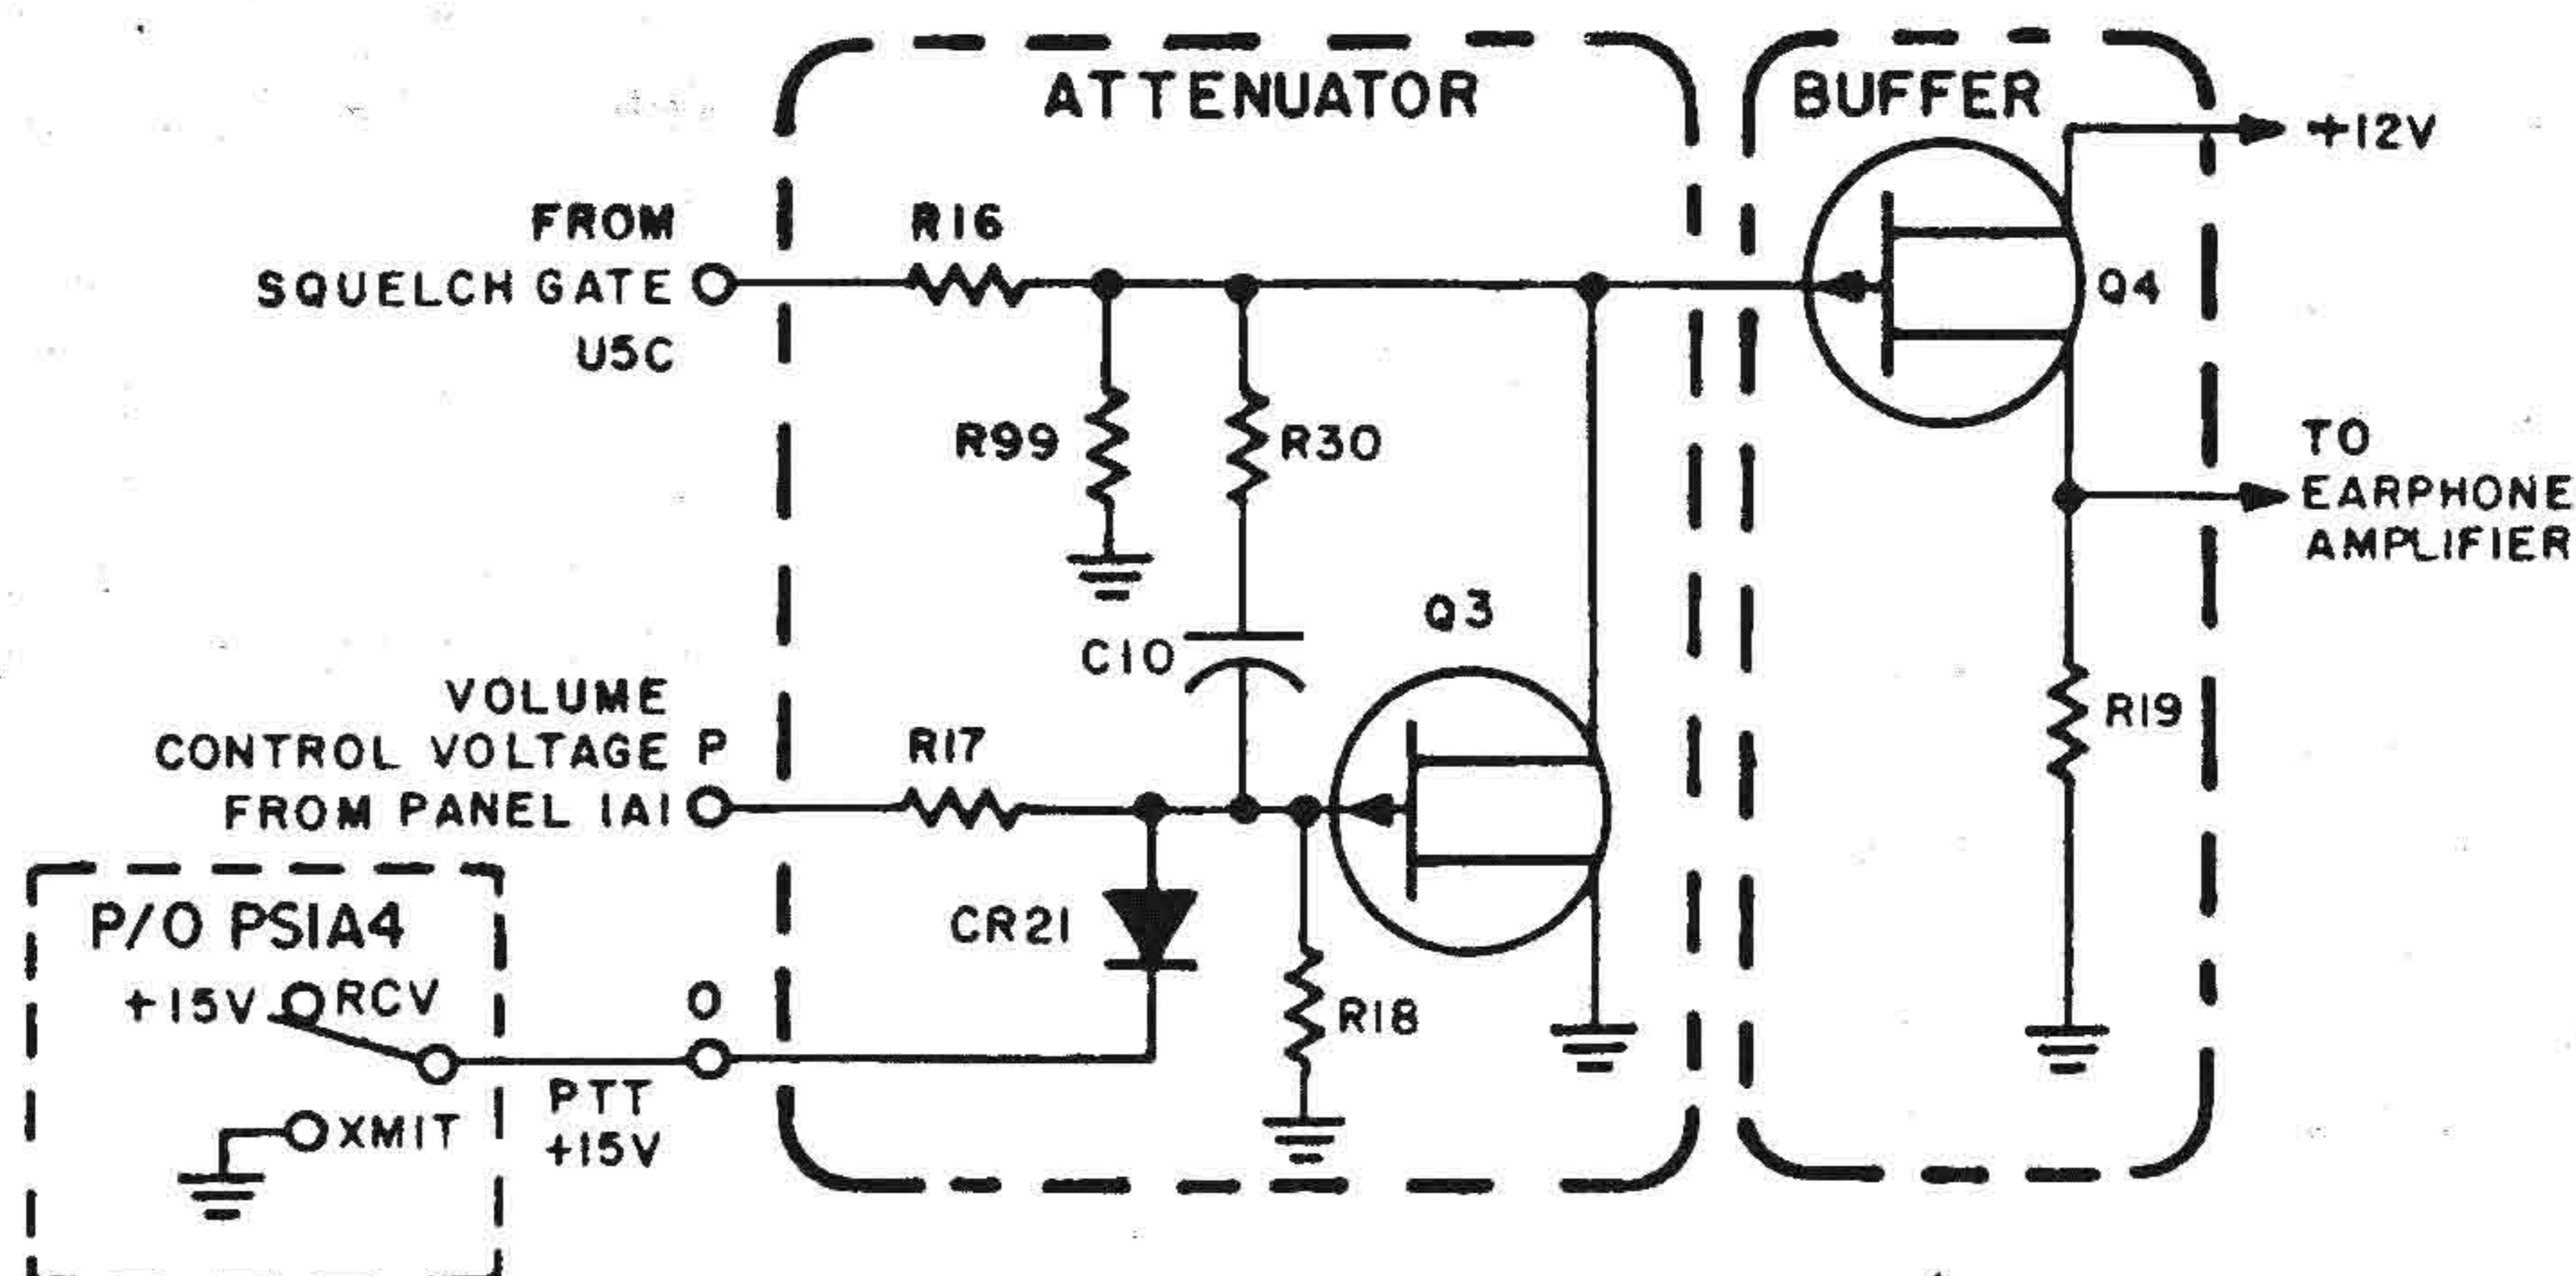

Fig. 2-14. Electronic Volume Control, Simplified Circuit Diagram
(4) Electronic volume control (fig. 2-14). The electronic volume control is a voltage-controlled attenuator consisting of resistor R16 and the drain-source resistance of FET Q3, in parallel with R99. The FET resistance may be varied by the DC voltage arriving on the VOLUME line from the front panel (pin P) - thereby varying the attenuation ratio. Resistor R30 and coupling capacitor C10 reduce the distortion caused by Q3. The attenuated signal is buffered by FET Q4, which operates as a source follower. The output signal of Q4 is applied through C11 to the input of the earphone amplifier U4. In the transmit mode, the PTT +15V line (pin O) is grounded. The DC control voltage is thus shorted to ground via diode CR21, thereby neutralizing the influence of the VOLUME control. When Q3 receives nearly zero gate-source bias, it presents minimum resistance, yielding maximum attenuation. In conjunction with the closing of the squelch gate in the transmit mode, this arrangement further reduces the leakage of signals from module IF 1A2A2 to the earphone amplifier.
(5) Earphone amplifier. The earphone amplifier, U4, supplies the audio signal to the earphone (through pin R). The gain of U4 is determined by the ratio of R23 to R22. Resistors R20 and R21 determine the quiescent DC voltage at the amplifier output. Capacitor C14 reduces the DC gain to unity, while presenting a low reactance in the frequency range of interest. The output signal is sent to the earphone via capacitors C12, resistor R24 and pin R.
(6) Audio compression amplifier. The signal appearing at the output of